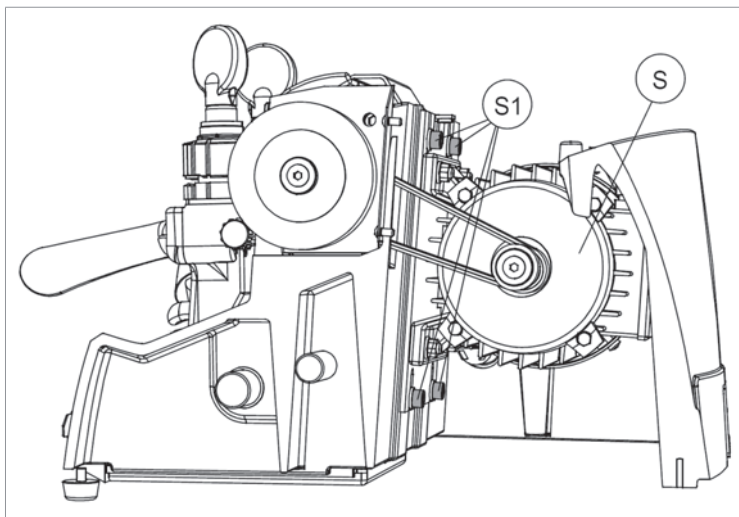

Fig. 53
- 6) Loosen the 4 screws (S1) of the plate motor (Fig. 53).
- 7) Loosen the 4 screws (S1) (Fig. 53) on the motor fixing plate and remove the belt.
- 11) Install the belt and tighten the 4 screws (S1) (Fig. 53) of the plate motor.